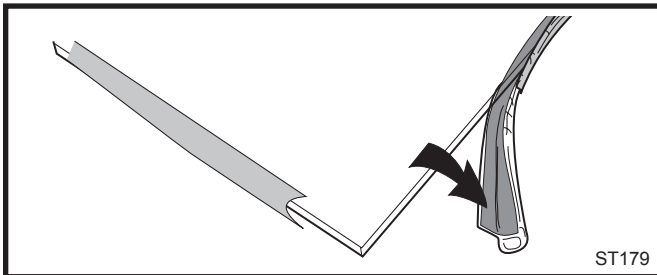

Fig. 59 Wrap the gasket material around the outside edge of the glass.
2. Swing open the swiveling latches at the top left and right corners of the glass frame. (Fig. 59, Page 31)
3. Starting on a long edge, remove about 6" of the protective paper strip and apply the flat adhesive face of the gasket around the outside-facing edge of the panel. Continue around the panel, applying a bout 6" at a time and being careful to not stretch the material. Do not overlap the gasket ends. (Fig. 59)